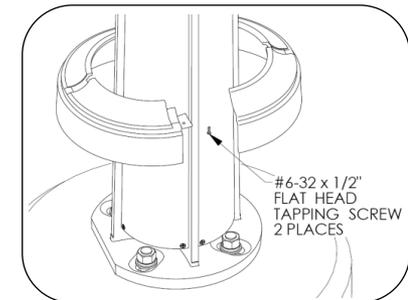

Fig. 7 – Install cover plate
2. Install tapping screw as noted in Fig. 7, two places.